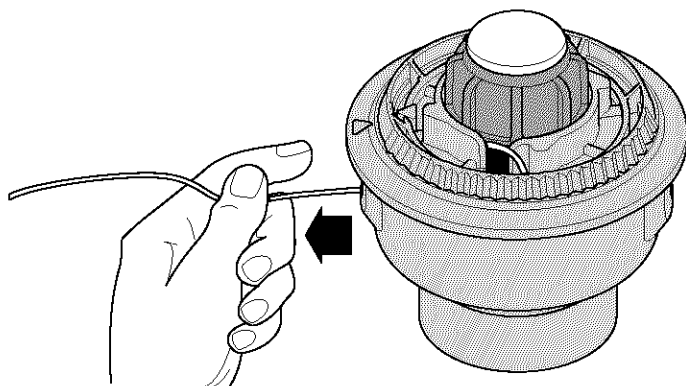

Fig. 23
6. Pull the line from the outer spool until the line is tight against the inner reel (Fig. 23).